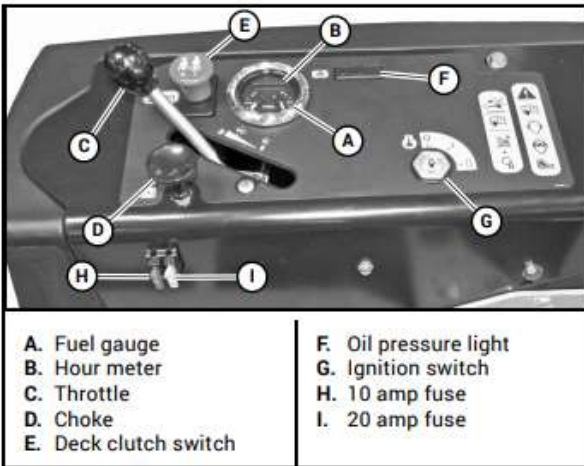
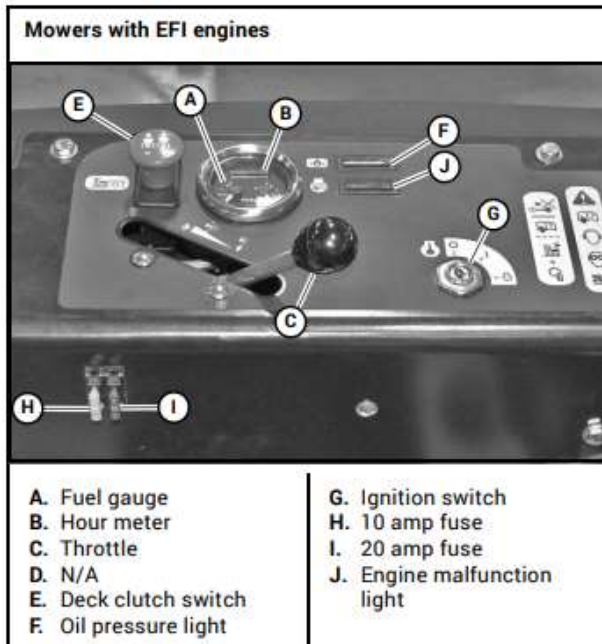
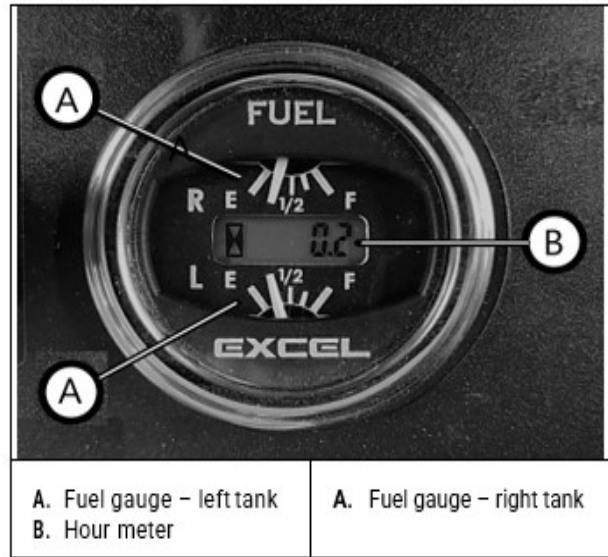

Figure 1
Figure 2
Figure 3
**A. Fuel tank gauge** [Figure 1], [Figure 2] & [Figure 3])— this gauge shows the fuel level for each fuel tank. The right gauge indicates the fuel in the right tank and the left gauge indicates the fuel level in the left fuel tank.
**B. Electronic hour meter** [Figure 1], [Figure 2] & [Figure 3] — registers 1/10 hour increments up to 9,999.9 total hours. It is connected to the ignition switch. It records the accumulative time while the ignition key is switched to the “RUN” position.
**C. Throttle control** [Figure 1] & [Figure 2] — a cable is linked to the engine throttle for controlling engine speed. Move the lever forward to increase engine rpm, move the lever rearward to decrease engine rpm.
**D. Choke control** [Figure 1] — a cable is linked to manually operate the engine choke. When the lever is in the down position, the choke is in the “OFF” (run) position. When the knob is pulled up, the choke is in the “ON” (start) position. Do not operate the machine in the “ON” (start) position.
E. **Brush clutch switch** [Figure 1] & [Figure 2] — this switch engages the brushes. Pull the switch up to engage and push switch down to disengage the clutch.
F. **Oil pressure light** [Figure 1] & [Figure 2] — this light comes on when the ignition switch is placed in the “RUN” position and stays lit until the engine is running and a safe oil pressure is developed. If the light comes on during operation, shut the engine off immediately and locate and correct the problem.
G. **Ignition switch** [Figure 1] & [Figure 2] — a three position switch: “OFF”, “RUN”, and “START”. With key inserted, rotate it clockwise to the “START” position; release the key when the engine starts, and the switch will automatically return to the “RUN” position.
H. **10-amp fuse** [Figure 1] & [Figure 2] — Ignition system & Safety system - 10 amp
I. **20-amp fuse** [Figure 1] & [Figure 2] — Controller - 20 amp
J. **Engine malfunction light** [Figure 2] — this light comes on when there has been an engine malfunction on P-REXs with electronic fuel injected engines. Refer to the engine owner’s manual for more details.